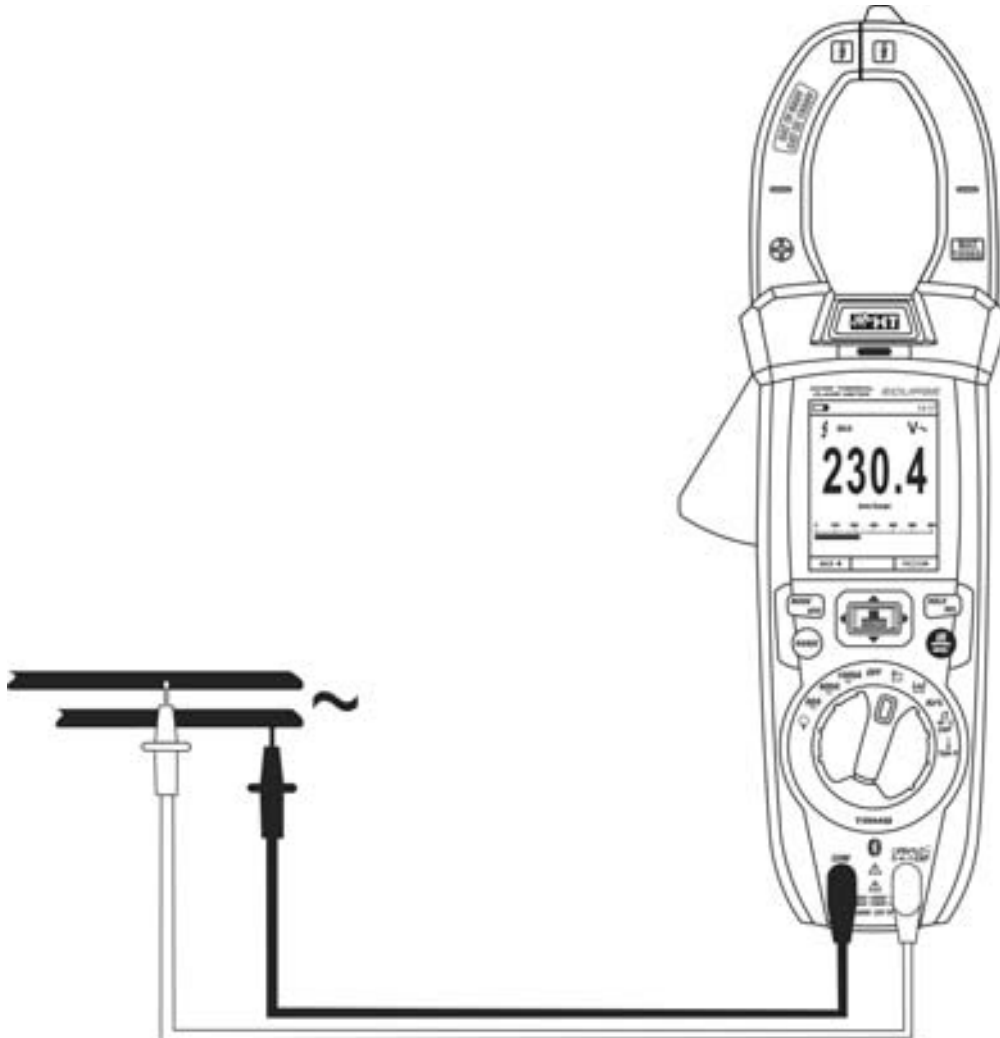

Fig. 24: Use of the instrument for AC, AC+DC, VFD voltage measurement
4. Position the red lead and the black lead respectively in the spots of the circuit to be measured (see Fig. 24). The display shows the value of voltage.